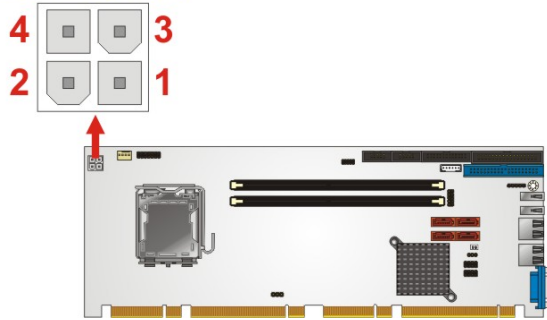

Figure 3-5: CPU Power Input Connector Location
- CN Location:** See **Figure 3-5**